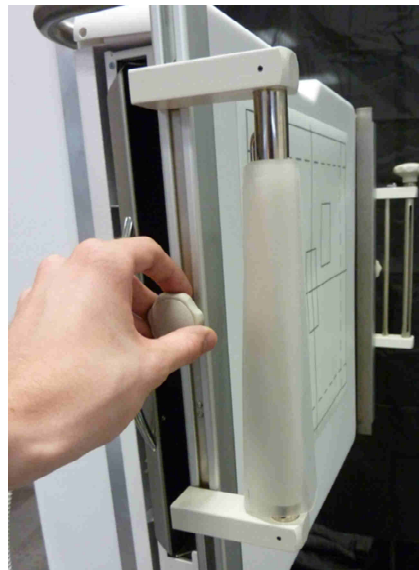

Figure 4-4
Step 2: Insert the fixed stretching roller into the support rail on the left side and fix it at the same height. Insert the compression band and pull it around the stretching roller (Figure 4-4).